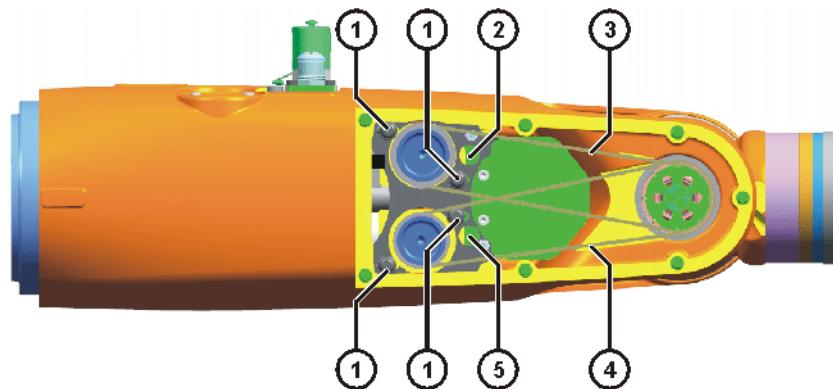

Fig. 10-2: Tensioning the toothed belt – example
2. Slacken 2 M4x10-10.9 fillister head screws on motor A5 (**>>> Fig. 10-2**).